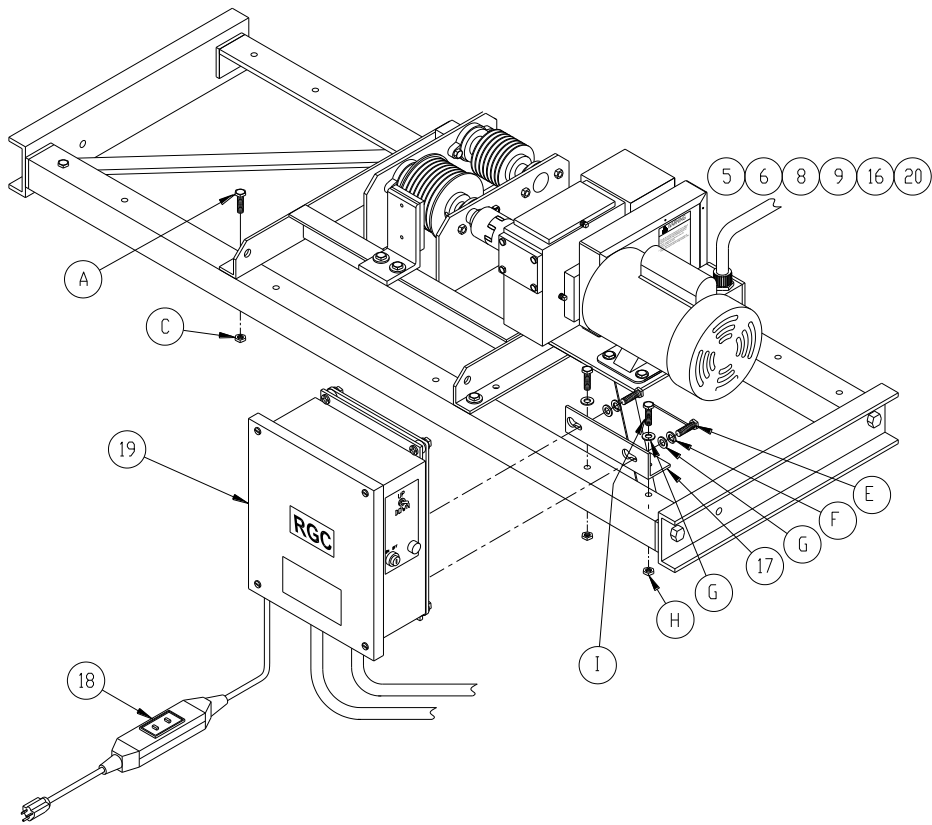

Figure 3-3.
1. **Refer to Figure 3-3.** Mount optional remote control panel to motor cross tie using supplied mounting bracket and hardware as shown above if applicable.